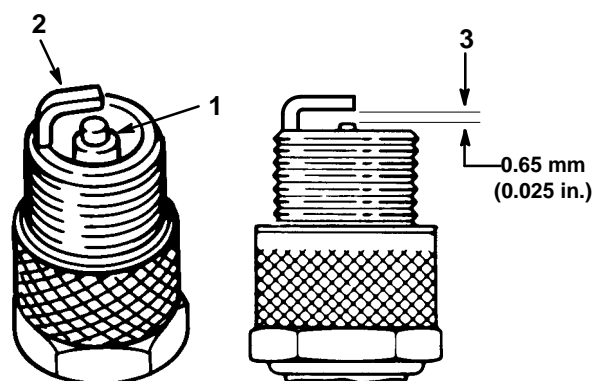

Figure 23
1. Look at the center of the spark plug(s) (Fig. 23). If you see light brown or gray on the insulator, the engine is operating properly. A black coating on the insulator usually means the air cleaner is dirty.
2. Check the gap between the center and side electrodes (Fig. 23). Bend the side electrode (Fig. 23) if the gap is not correct.